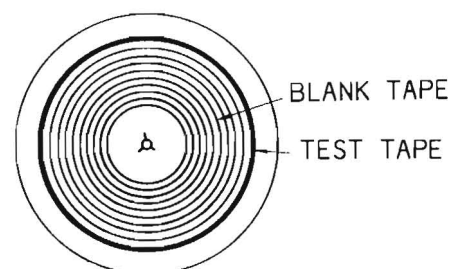

Figure 7-2 Test Tape Loading
Since tape tension affects tape speed, it is important for accurate measurement that the flutter test tape used is attached to the end of a full wound reel of blank tape as shown in Figure 7-2, and is used with the REEL pushbutton set to the appropriate reel size.
4. Attach the test tape to a 10 1/2 inch NAB reel as shown in Figure 7-2, place the test tape on the supply reel table, thread the tape, and set the REEL switch to the "OUT" LARGE position.
It is important that the flutter test tape used is attached to the end of a full wound reel of blank tape as shown in Figure 7-2, and is used with the REEL pushbutton set to the appropriate reel size.